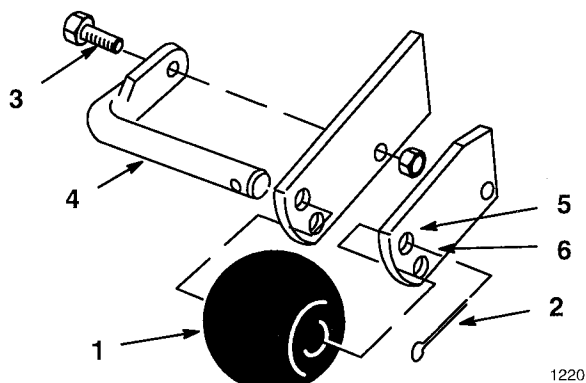

Figure 16
2. Remove cotter pin, bolt and shaft to change hole location (Fig. 16).
3. Select the hole position for the height-of-cut to be used and insert rod (Fig. 16).